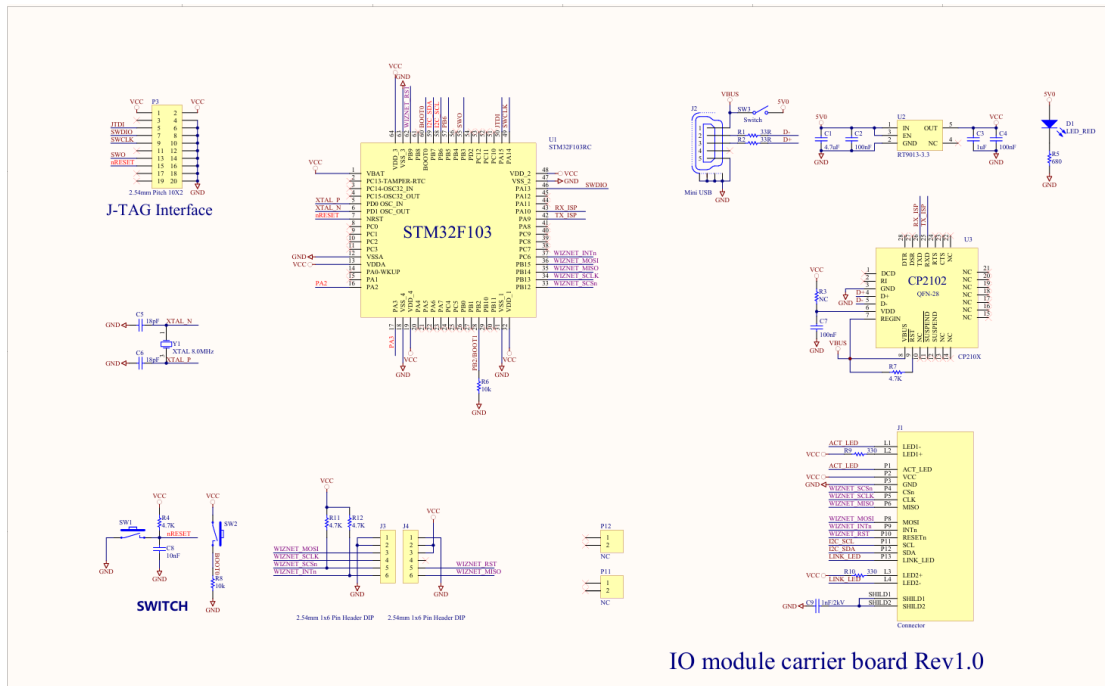

Figure 2-4: Reference design schematic diagram of the peripheral circuit of WIZ-IP55
- The reference design schematic diagram of the peripheral circuit for WIZ-IP55 is shown in Figure2-4.